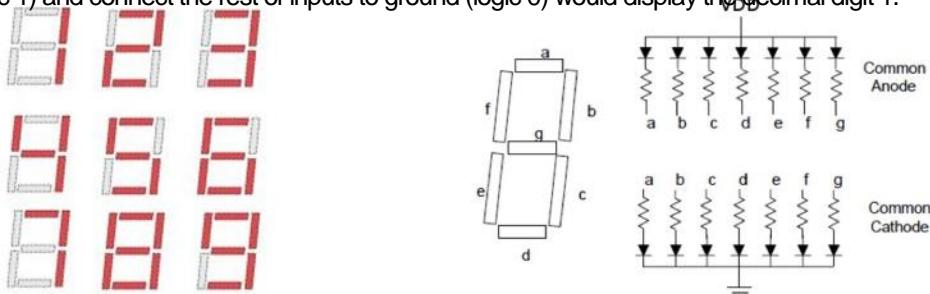

Figure 1
A seven-segment display displays decimal numbers. It consists of seven Light Emitting Diodes (LEDs), which are arranged to form different digits as shown in Figure 1. The seven segment displays come in two forms: Common Anode (CA) and Common Cathode (CC). A common anode 7-segment display has all of the anodes tied together while a common cathode 7-segment display has all the cathodes tied together. By turning ON and OFF LEDs, a decimal digit can be displayed. For example, for a common Cathode 7-segment display connecting b & c to the VCC (logic 1) and connect the rest of inputs to ground (logic 0) would display the decimal digit 1.